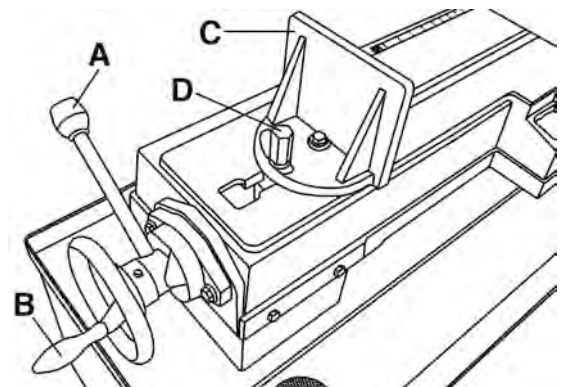

FIGURE 10
- 2) Position the cam lock lever (A) Fig.10 in the upwards position, turn the handwheel (B) a 1/4 turn at a time counterclockwise until you are able to move the vise jaw (B). Once the vise jaw is in position close to the workpiece, turn the handwheel clockwise and lower the cam lock lever (A) to its down position as shown in Fig.10 to firmly hold your workpiece.
- 3) To loosen the workpiece from the vise, hold the workpiece and lift the cam lock lever (A) to its upwards position (completely opened) and remove workpiece.
Then loosen the hex. shaft (D) Fig.10 on the left side vise jaw (C) with a 19mm open ended wrench. Place your workpiece on the table and tighten the vise jaw against it and tighten the hex. shaft to secure angle.